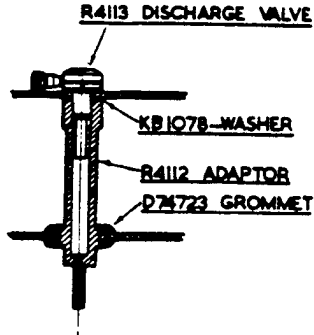

FIG. 6.
6. Fit the two spray units as shown in Fig.6:-